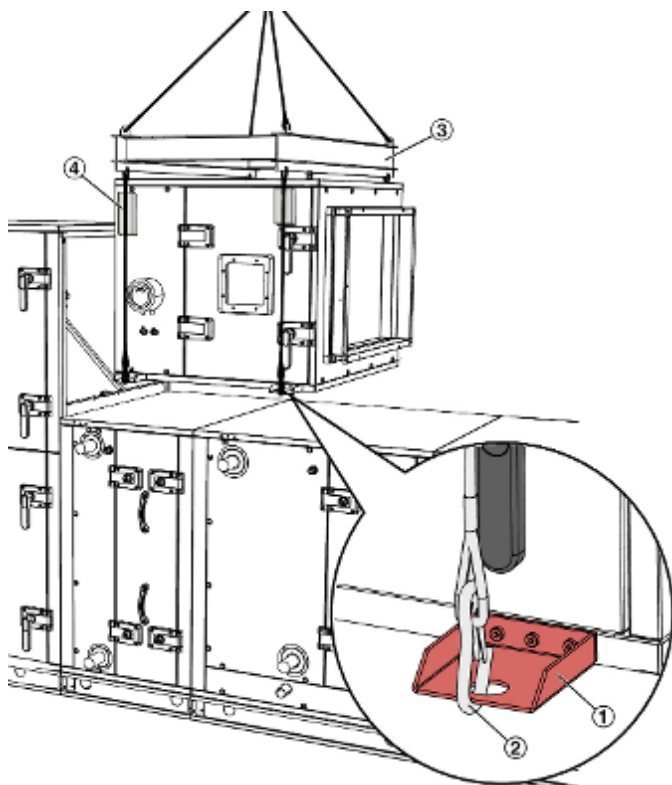

Fig. 6: Travel stop on transport brackets
The number of transport brackets on the AHU casing unit (Fig. 6 /1) determines the number of lashing points to be used.
- 1 ▶ Hook slings (Fig. 6 /2) into transport brackets.
- Spread the slings (wire ropes or chains) near the roof with suitable spreading devices, e.g. a spreader beam (Fig. 6 /3).
- Ensure that the slings cannot damage the AHU casing unit. Protect the edges of the AHU casing units with wood blocks (Fig. 6 /4) for example.